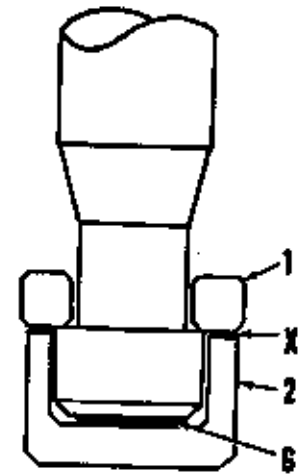

Fig. FO13—Feeler stock method of checking end clearance between rotator cap and end of valve stem.
19A. One of the simpler methods of checking is shown in Fig. FO13. From a strip of flat shim stock of 0.010 thickness, cut a 3/16-inch diameter disc. Lay this disc (G), which must be flat, on inside floor of rotator cap (2)